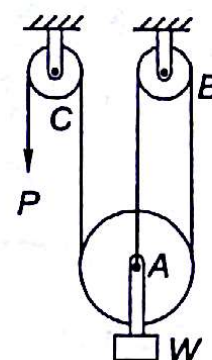

Fig. 3.49
3.3 A pull of 200 N is applied on a pulley system shown in Fig. 3.49. Weights of pulleys A , B and C are 100 N, 30 N and 40 N respectively. Pulleys are frictionless. What weight W can be lifted by the system.